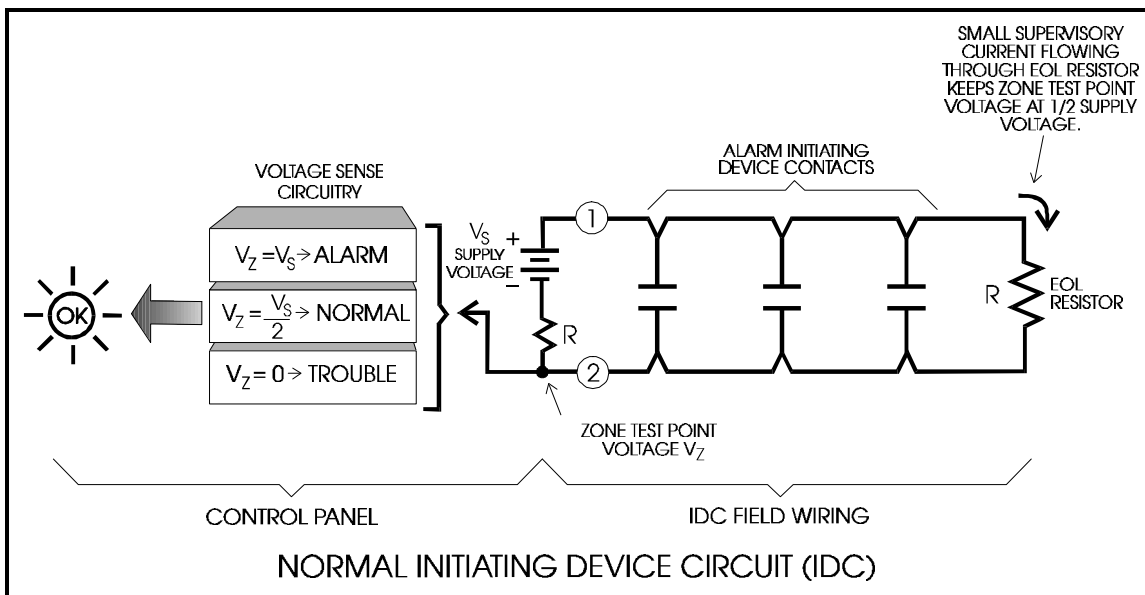

Figure 1
Figure 1 shows a simplified fire alarm panel supervising a single Initiating Device Circuit or zone using Direct Current (DC) continuity supervision. The supervisory current from the battery flows through terminal #1, the field wiring, the EOL resistor, terminal #2 of the control panel through a second resistor, and returns to the battery. The internal resistor and EOL resistor have equal resistance values. The voltage at the zone test point V_z is